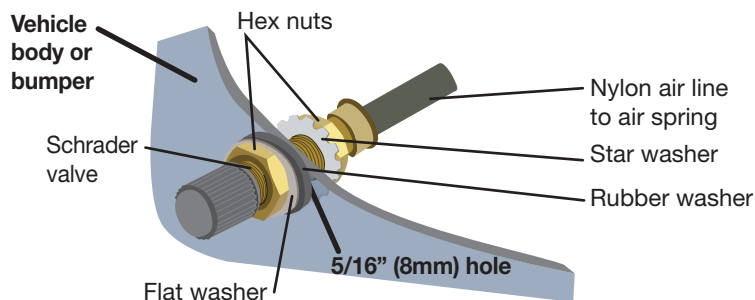

fig. 24
3. Install the Schrader valve in the chosen location (Fig. 24).